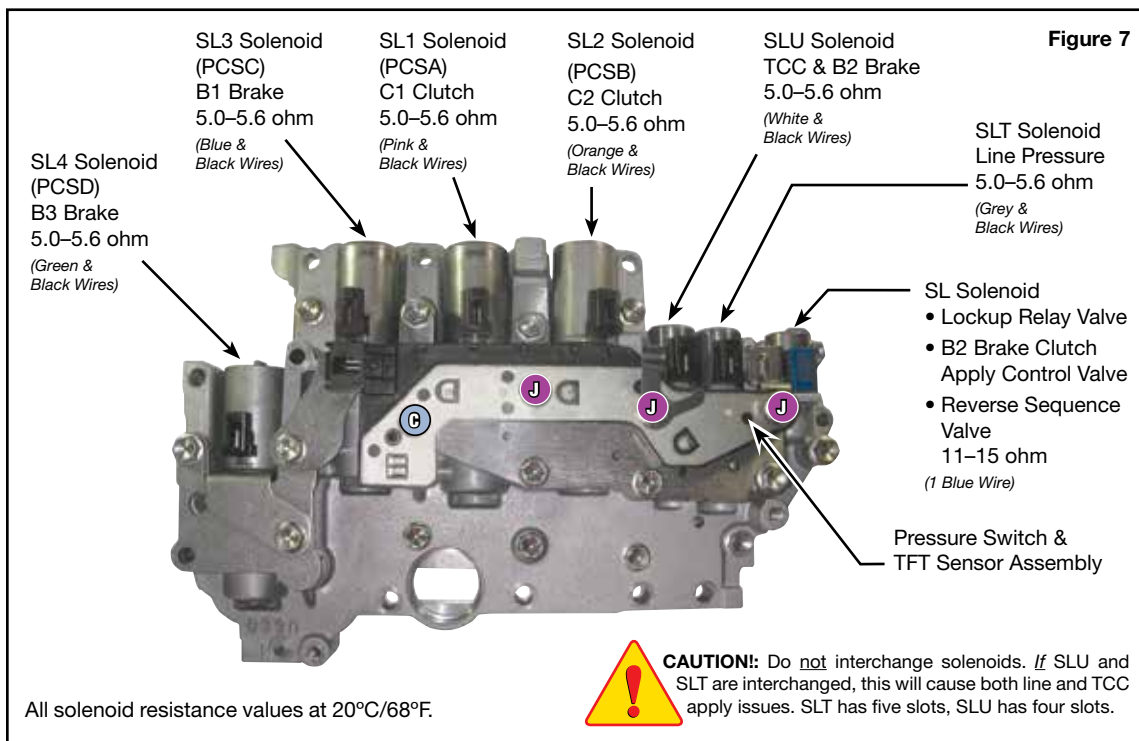

Figure 7
- Remove four indicated bolts (**Figure 7**) and pressure switch and TFT sensor assembly.
- Reinstall pressure switch and TFT sensor assembly and four bolts (**Figure 7**).